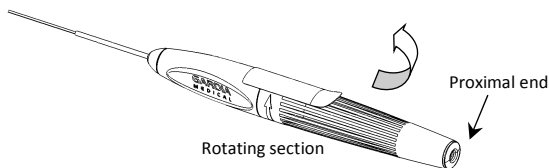

Fig. 4: Safety sticker removal
1. Hold the Activating Handle and peel away the safety sticker (Fig 4).